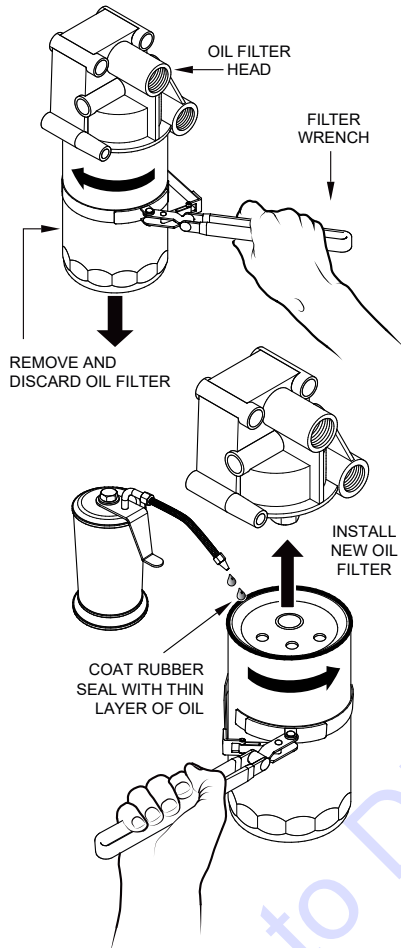

Figure 69. Oil Filter Removal
2. Using an oil filter wrench (Figure 69), remove the engine oil filter.
3. Coat the rubber seal (gasket) surface of the oil filter (Figure 69) with clean 15W-40 engine oil.